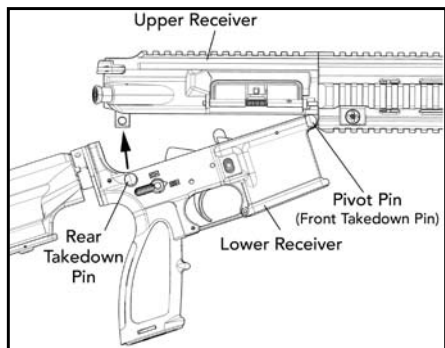

Fig. 51 – Closing Upper and Lower Receiver
- c. Mount the lower receiver to the upper receiver. Drift the front pivot pin from right to left. The pivot pin will not completely lock but it will engage the upper receiver (Fig. 51).